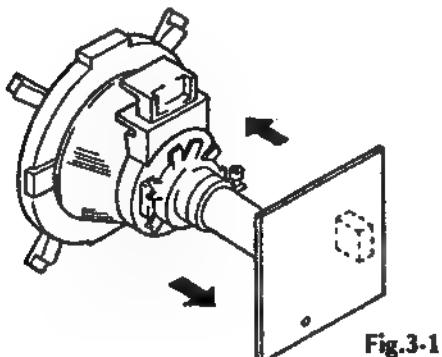

Fig.3-1
(See Figures 3-1 through 3-3.)
- Move the deflection yoke forward and adjust so that entire screen is green. (See Figure 3-1.)